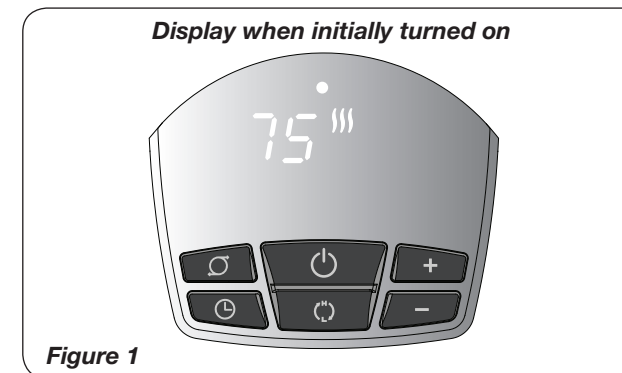

Figure 1
7. Upon turning the Heater on, the unit will be in HIGH heat (⏻) (1500 Watts) and will display the current room temperature (Figure 1)